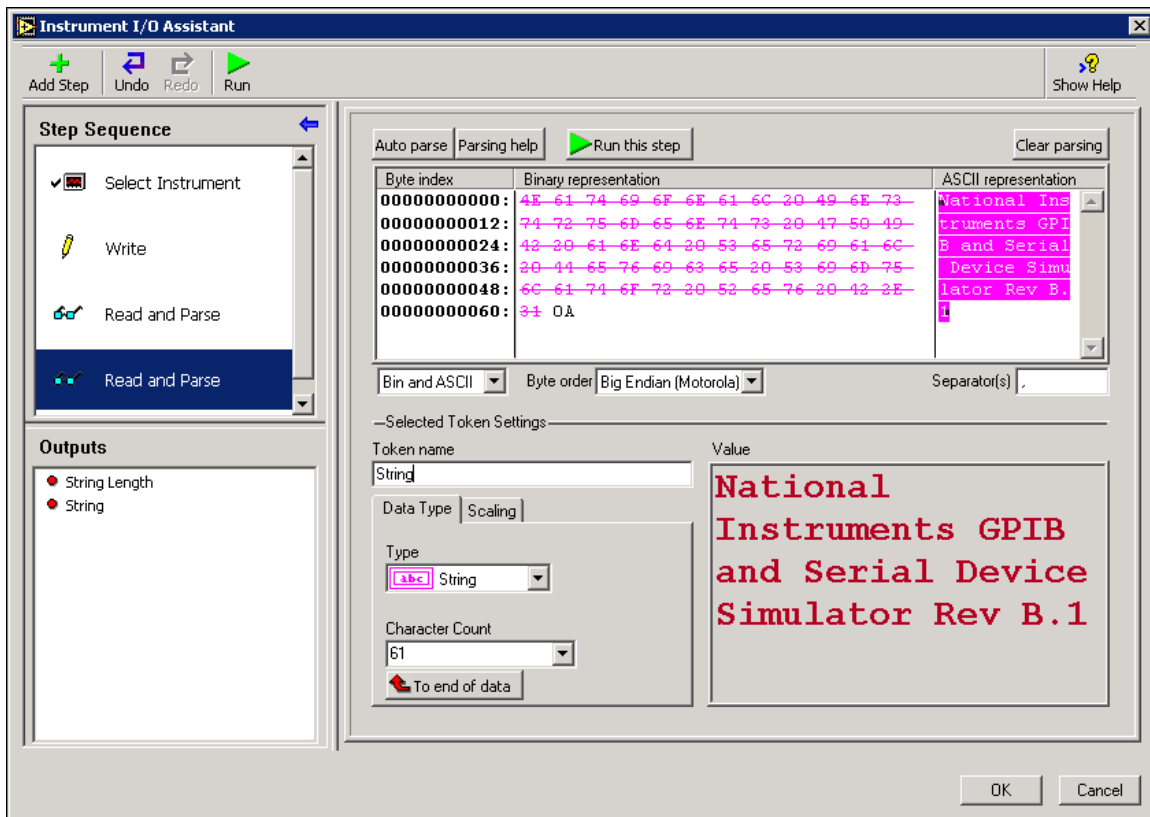

Figure 11.19
- xi. Rename Token to String in the Token name text box. The configuration window should be similar to the Figure 11.19.